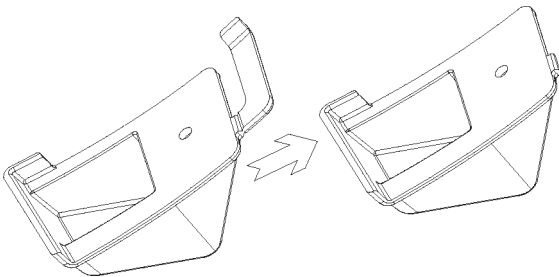

FIGURE 13
21. Snap off top locating tab. (Both LH & RH). Refer to figure 13.